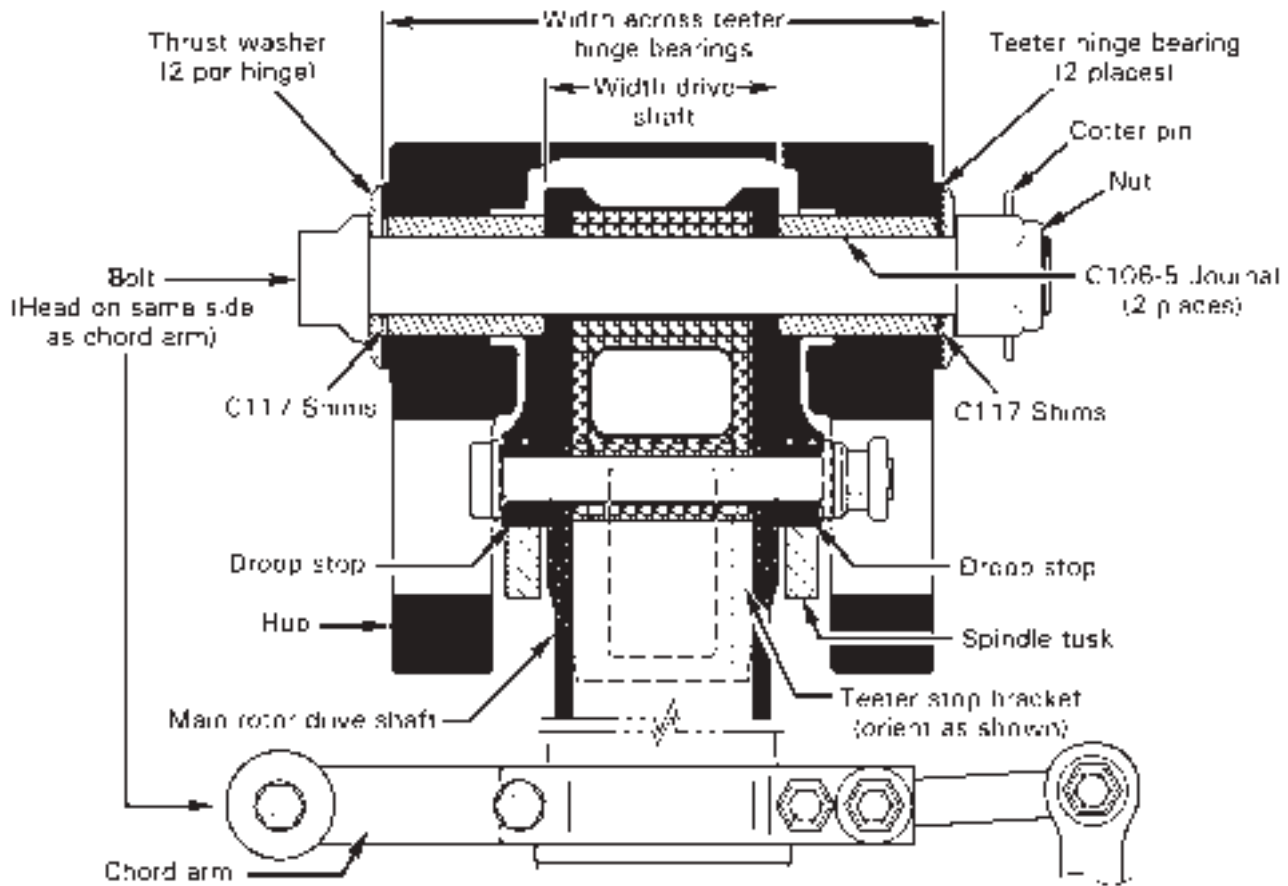

FIGURE 62-2 TEETER HINGE (HUB INSTALLATION)
2. Refer to Figure 62-2. Mark rotor hub using a grease pencil or soft marker as follows:
3. Refer to Figure 62-2. Reinstall teeter hinge bolt, thrust washers, shims, and journals exactly as removed. If previously installed information is unavailable, perform teeter hinge journal and shim calculation per Section 62-31. Ensure journals are clear of droop stops and fully contact drive shaft.
- Refer to Figures 62-2 and 62-3. Measure and record hub width across widest point of teeter and coning hinge bearing faces (total of three measurements).